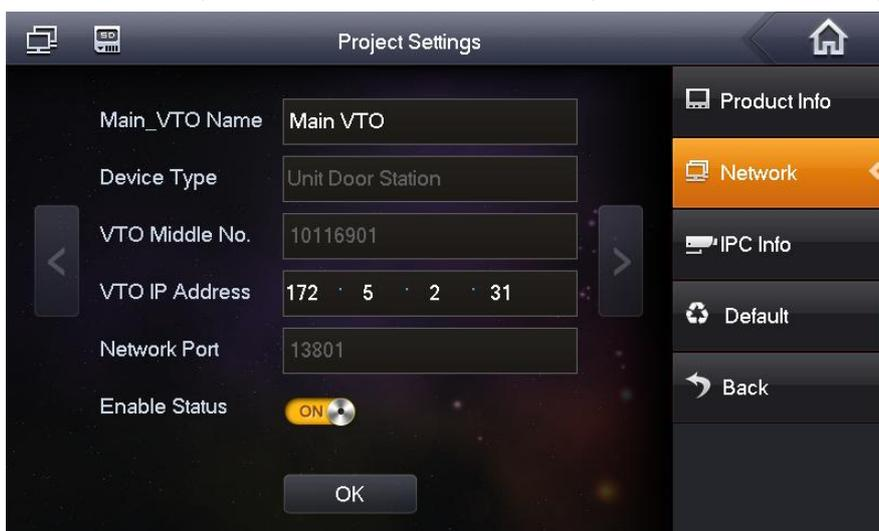

Figure 2-5
**Step 2** Check Network, input main VTO IP in Network, then point ok to save it. See Figure 2-5.